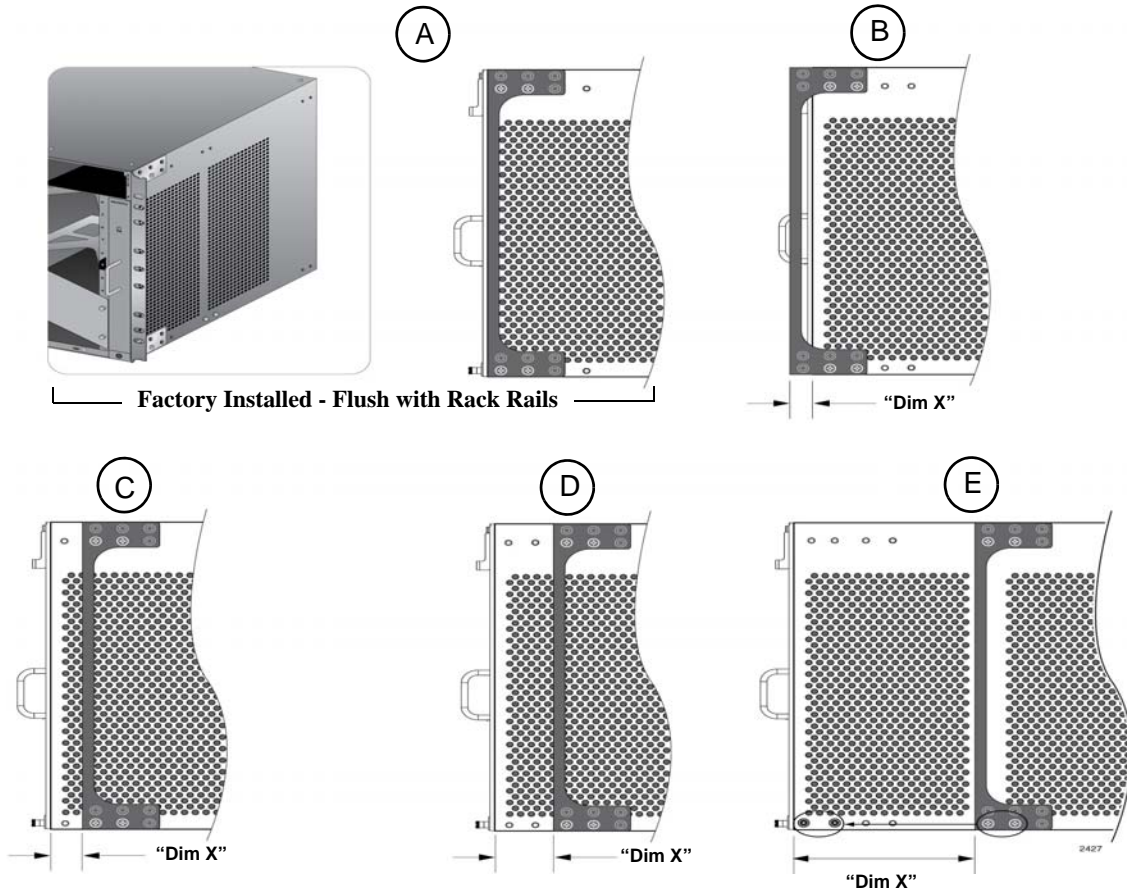
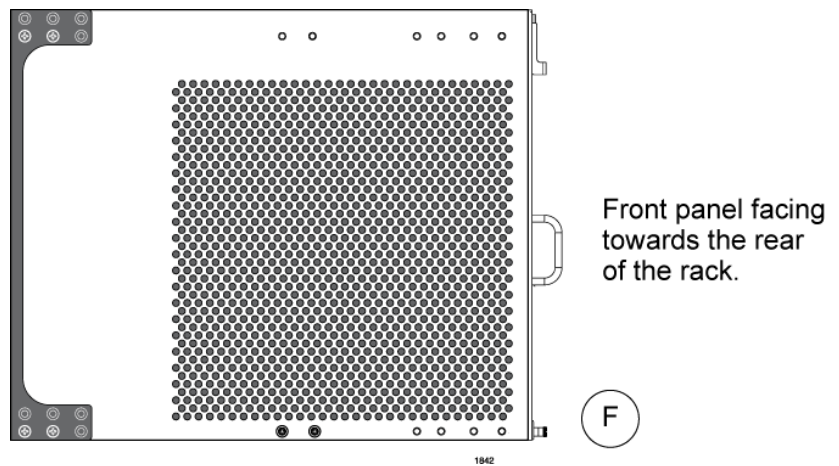

Figure 31. Rack Mounting Bracket Locations
Figure 32. Rack Bracket Locations for Reverse Position of Chassis
You adjust the brackets by removing them and re-installing them in different positions on the sides of the chassis. The different bracket positions are listed in Table 22 and illustrated in Figure 31 on page 97 and Figure 32 on page 97. Please review the following information before moving the brackets:
- ❑ To install the rack mount brackets in position “E,” you have to remove the two chassis screws from the bottom-middle section of the chassis and re-install them in front where the rack mount bracket screws were originally, as shown in Figure 31 on page 97.
- ❑ The dimension (X) between the front panel and the rack rails is given for each rack mounting bracket position in Table 22.